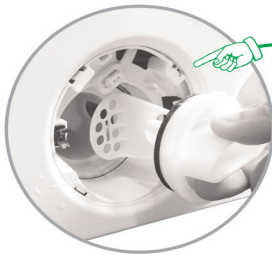

Fig.1
**CAUTION:** When draining of water is finished, close the pump cap by installing it in the right position (see fig.1).